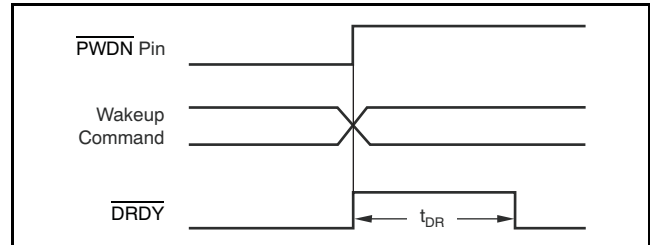

Figure 41.  $\overline{\text{PWDN}}$  Pin and Wake-Up Command Timing (Table 12 shows  $t_{\text{DR}}$ )
In power-down, note that the device outputs remain active and the device inputs must not float. When the Standby command is sent, the SPI port and the configuration registers are kept active. Figure 41 and Table 12 show the timing.
(1) See Figure 41 and Table 12 for time to new data.